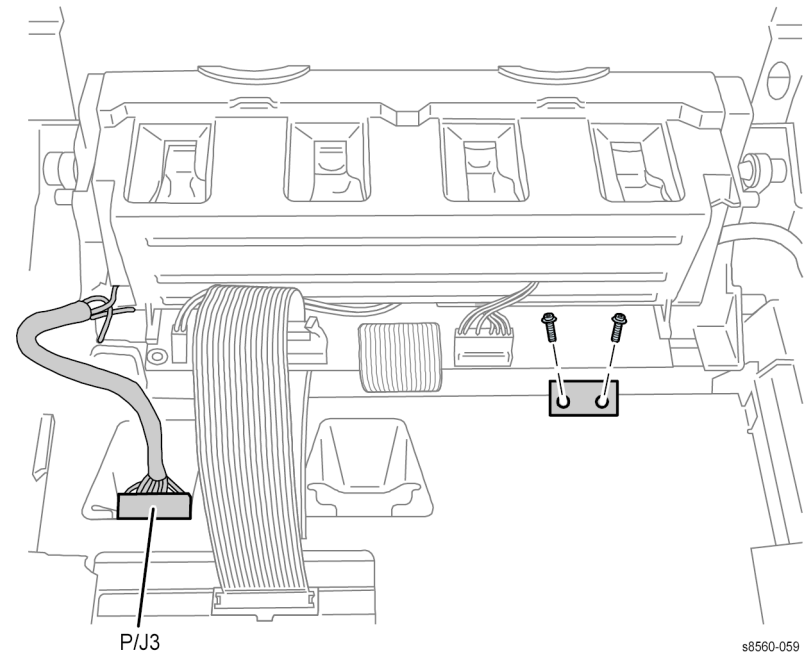

**Figure 7 Removing the Roll Block**
7. Install the Roll Block on the left end of the Printhead Shaft. Orient the Roll Block as shown on the label attached to the frame (Figure 7). The Red check mark indicates the correct orientation.